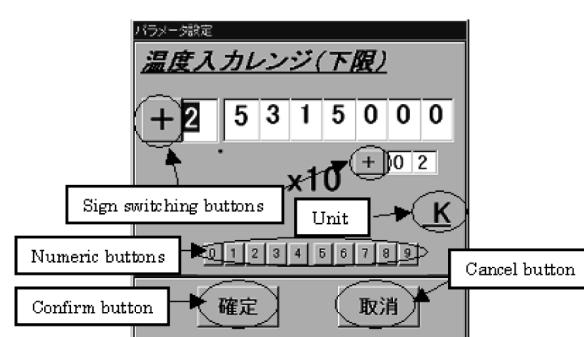

Fig. 8.10.2 Numeric Input
- Then, the window as shown in Fig. 8.10.2 appears.
- On the screen shown in Fig. 8.10.2, align the cursor (highlight) on the digit you want to change using the mouse or the tab button.
- When the window (Fig. 8.10.2) disappears, click [更新] [Update] button.